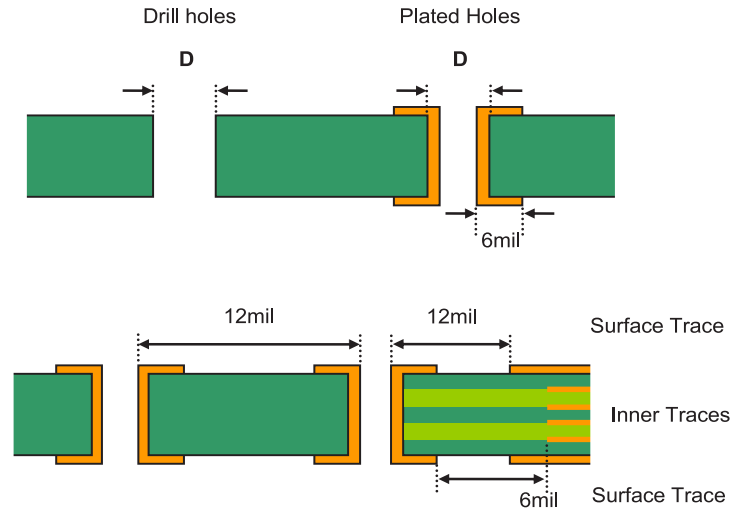

Figure 26: Spacing requirements for holes.
- [55] Here, we define D, as the minimum diameter of the finished drill hole from wall to wall of the PCB material. Where the wall or edge is defined as the bare PCB material wall and the plated walls include the metallized edge. See figure 26. The minimum diameter of the finished drill hole is 0.2mm. For plated holes, the actual finished diameter will be smaller than this.